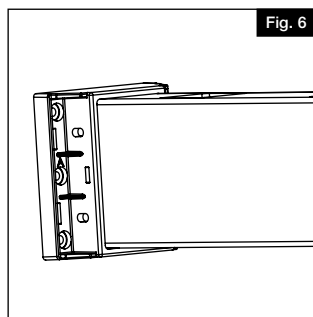

Fig. 6
- Place brackets onto both ends of bottom rail (Fig. 6).